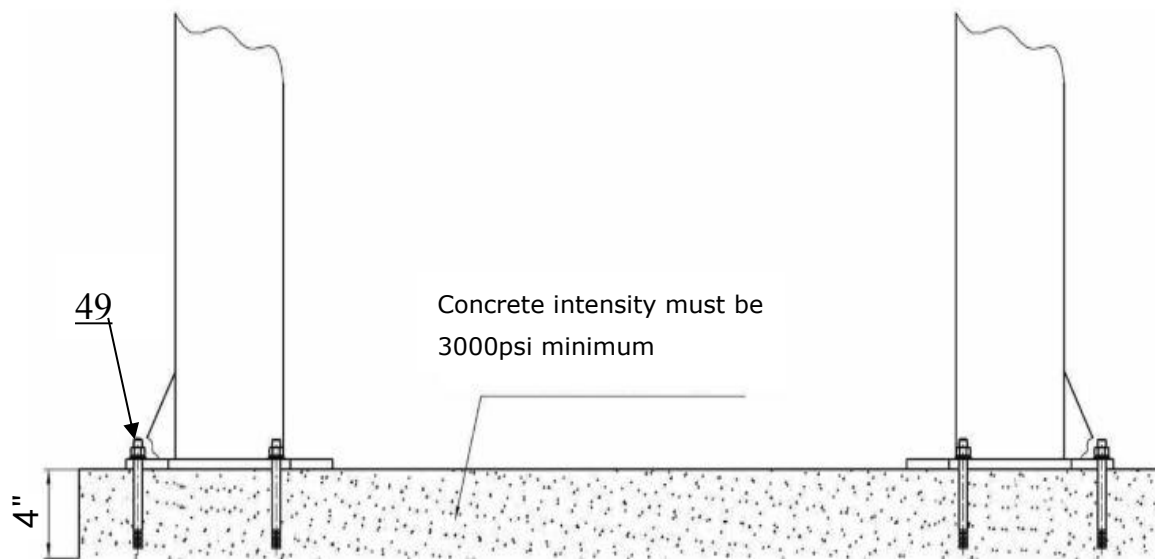

Fig.6
D. SPECIFICATIONS OF CONCRETE (See Fig. 6)